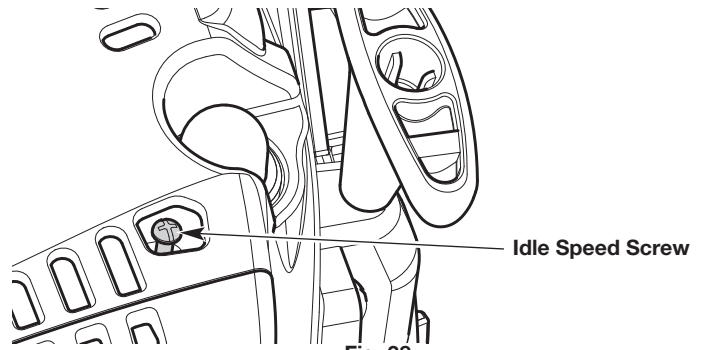

Fig. 38
- If the engine stops, increase the idle speed. Use a small Phillips screwdriver to turn the idle speed screw clockwise, 1/8 of a turn at a time, until the engine idles smoothly (Fig. 38).
- If the cutting head spins when the engine idles, reduce the idle speed. Turn the idle speed screw counterclockwise, 1/8 of a turn at a time, until the cutting head stops moving (Fig. 38).